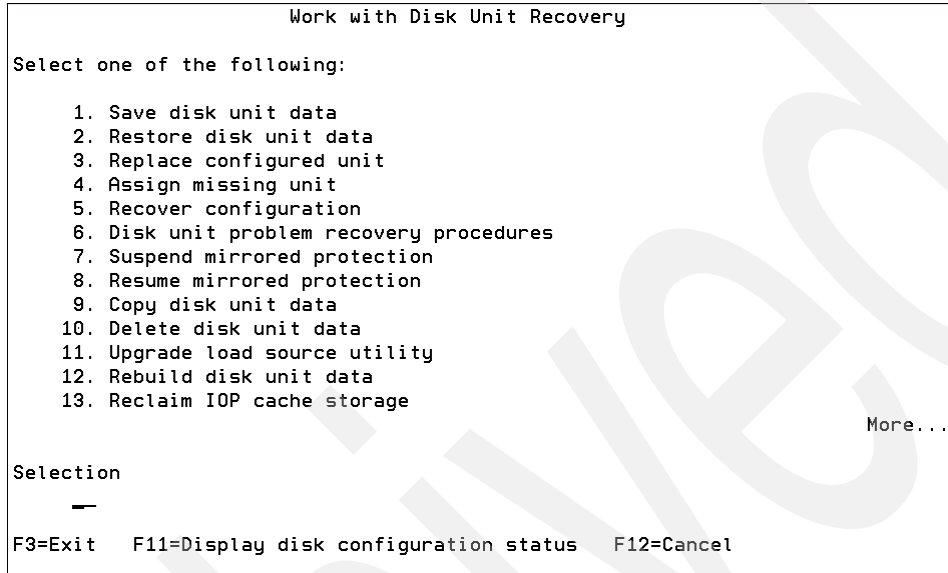

Figure 3-38 The Work with Disk Unit Recovery screen
- d. At the screen shown in Figure 3-38, enter 3 (Replace configured unit).